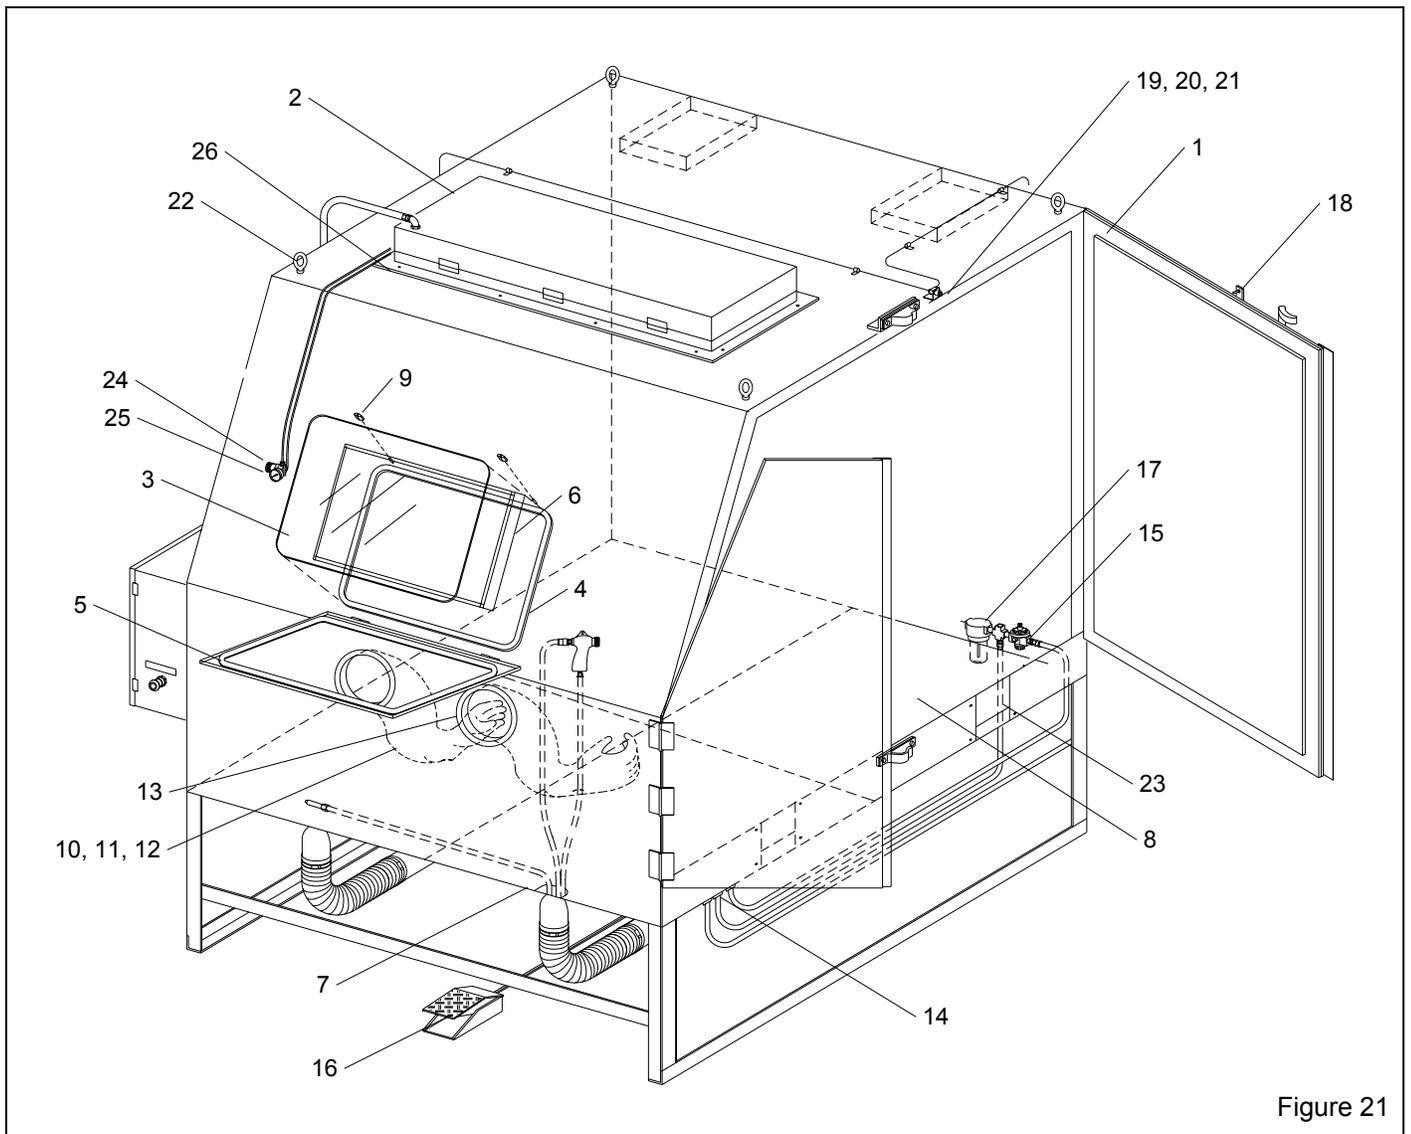

Figure 21
9.2 Cabinet Replacement Parts, Figure 21